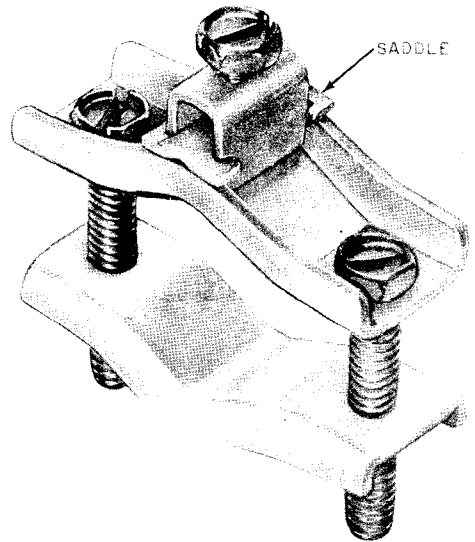

Fig. 47—C Ground Clamp
6.21 The C ground clamp (Fig. 47) is installed as follows: